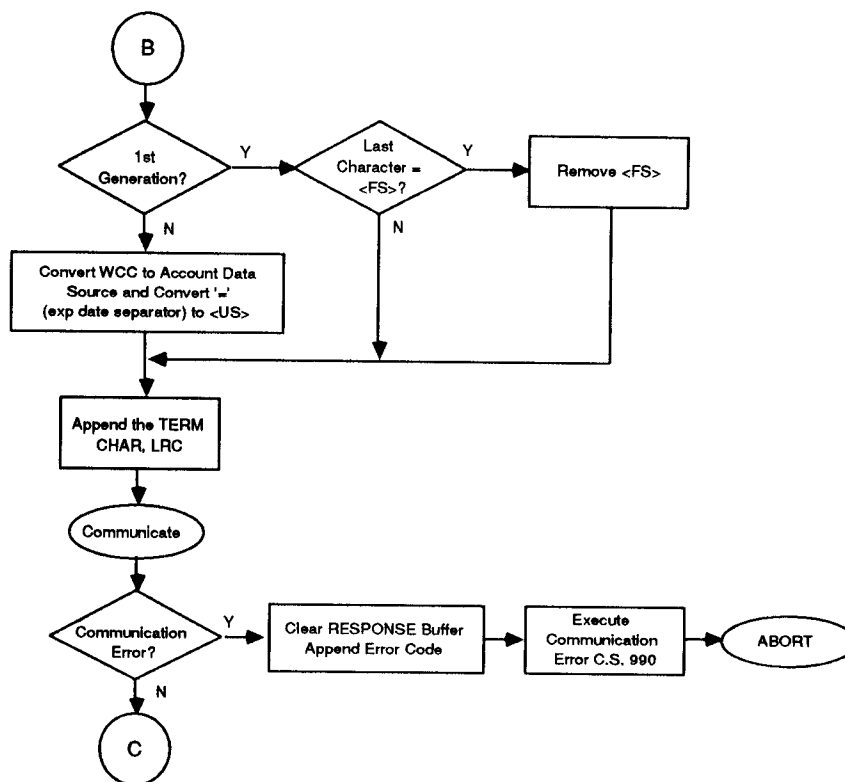

Figure 2-10. Transaction Routine, Part 2
- When the [FUNC] key is pressed, the terminal enters the routine illustrated in Figure 2-10, "Function Routine."